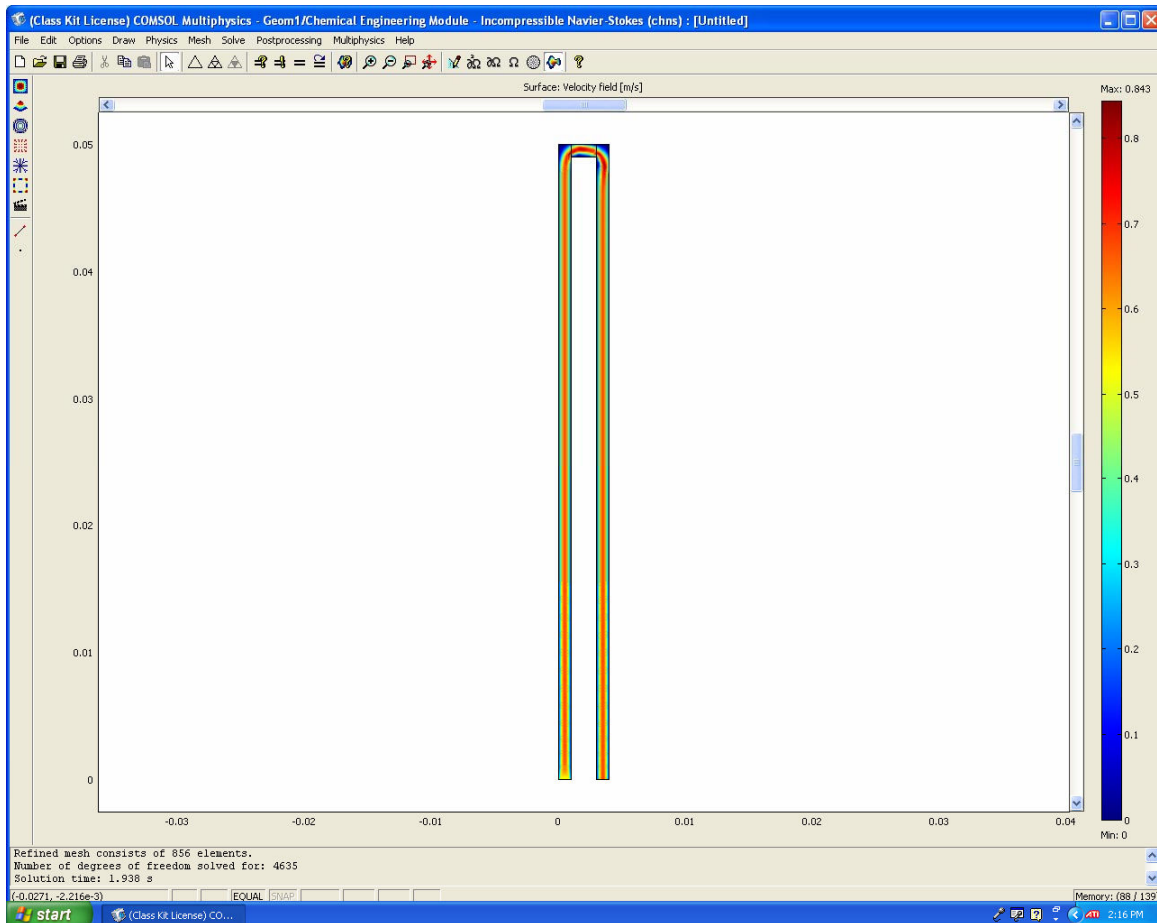

Figure 2.1. Velocity surface plot.
**Problem Statement:** A fuel cell bipolar plate has channels etched in it to allow for the flow of reactant gases. The flow path is rather complicated to allow for equal gas distribution so that there is a uniform fuel concentration at the catalyst. This design will result in better efficiency for the fuel cell. Refer to figure 2.1 below for the simplified geometry that we will be studying here.